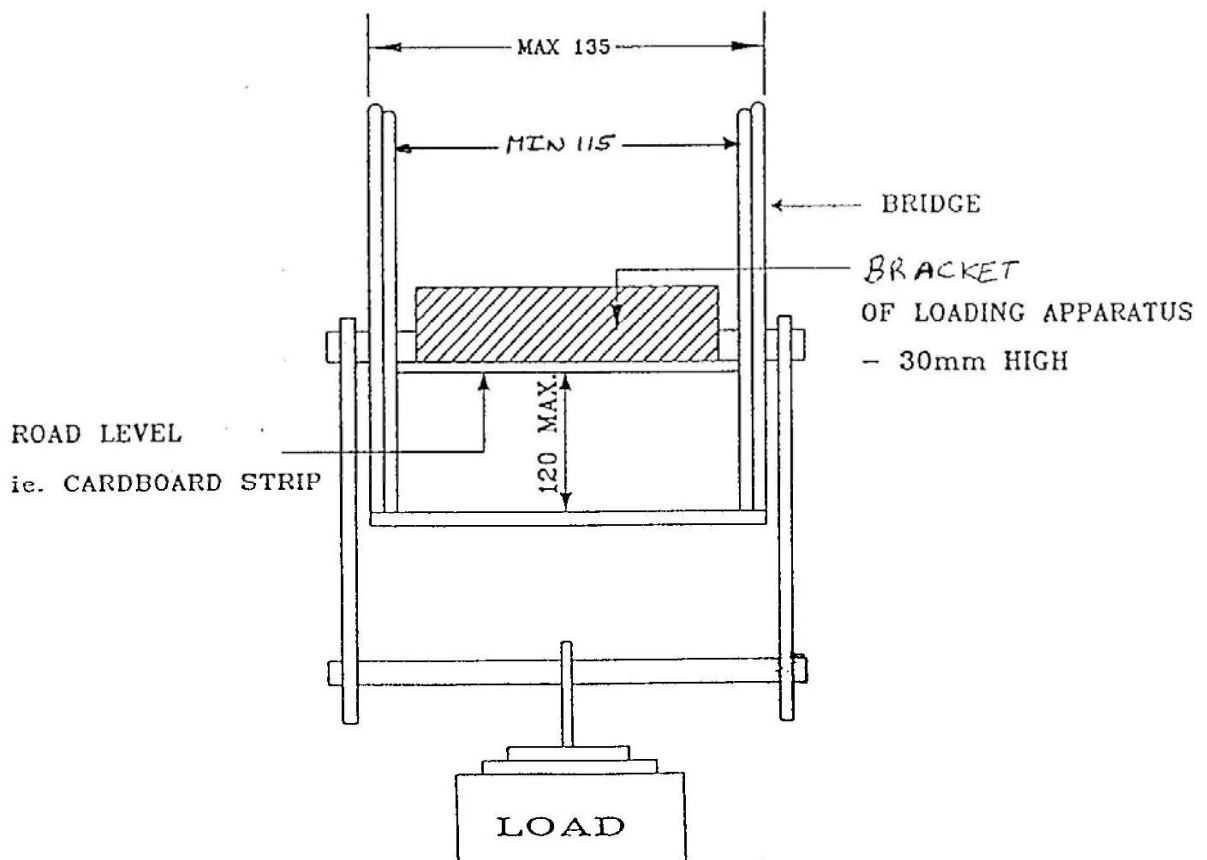

FIGURE 3
- (c) maximum bridge width is 135mm (See Figure 3)
- (d) minimum bridge width is 115mm (See Figure 3)
- (f) maximum bridge depth below the roadway is 120mm (See Figure 3)